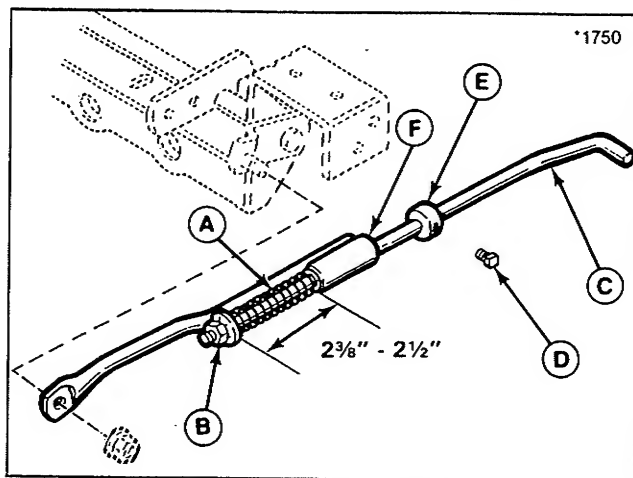

Figure 28. Brake Spring Adjustment
2. Inspect the brake spring (A, figure 28) under the left-hand side of tractor. Spring length should be between $2\frac{3}{8}$ and $2\frac{1}{2}$ inches. Refer to figure 28.
3. If adjustment is needed, loosen setscrew (D) so that collar (E) is free to move.
4. Adjust the spring length as necessary by turning nut (B) to compress or release spring. (Correct length: $2\frac{3}{8}$ to $2\frac{1}{2}$ inches.)